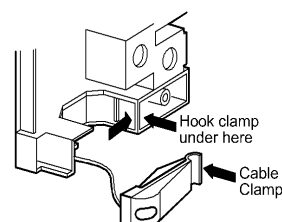

Fig.6
- Lift cover and remove screw from cable clamp. See Fig. 6.